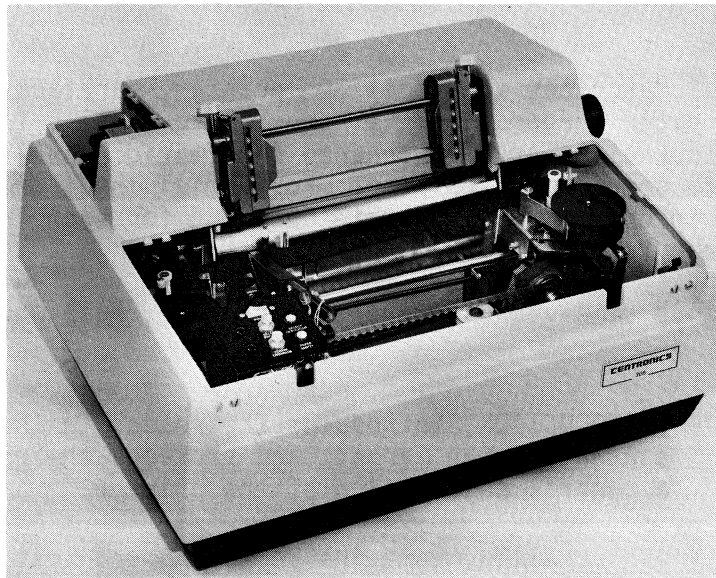

Figure 1-1. MODEL 306 PRINTER (TOP AND VFU COVERS REMOVED)
1.1 GENERAL DESCRIPTION (Figure 1-1)